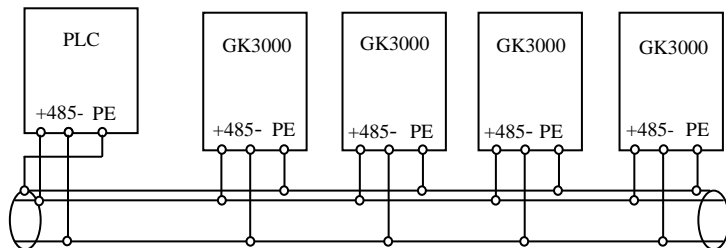
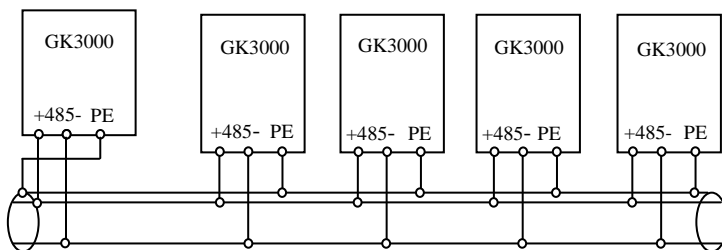

Fig. 3-12 PLC communication with multi VFDs
Fig. 3-13 Multi VFDs communication
(3) Multi VFDs can be connected together via RS485, controlled by PC/PLC as a host shown as Fig. 3-12. It also can be controlled by one of VFDs as a host shown as Fig. 3-13.